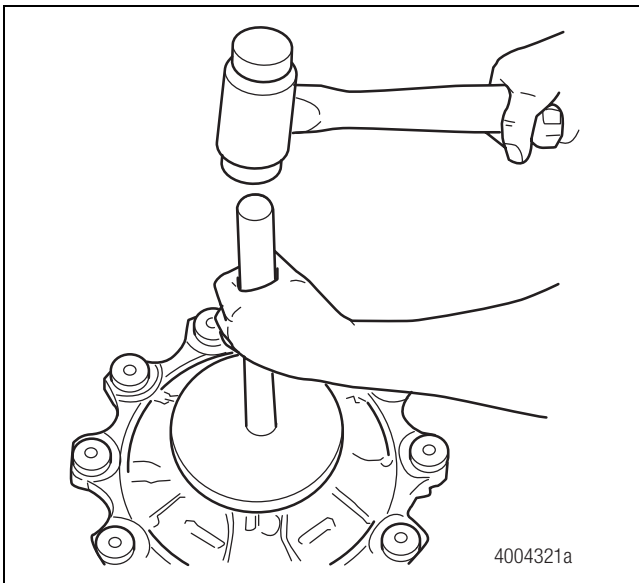

Figure 4.24
4. Install a new secondary seal into the hub. Figure 4.24.